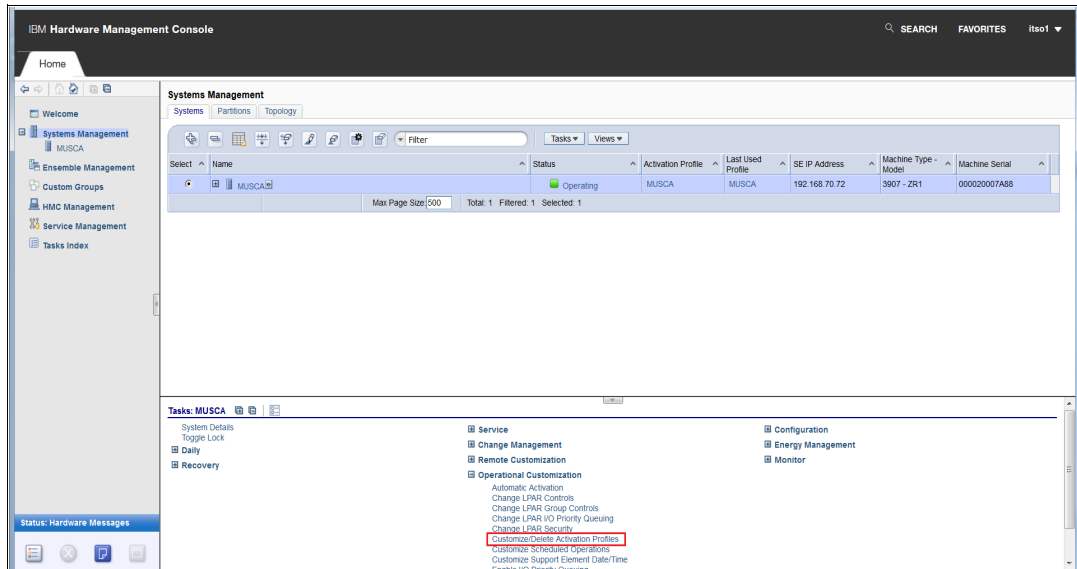

Figure 5-17 Customize Activation Profiles
4. On the Tasks window, click **Operational Customization** to expand it, and select **Customize/Delete Activation Profiles** (see Figure 5-17 on page 97).